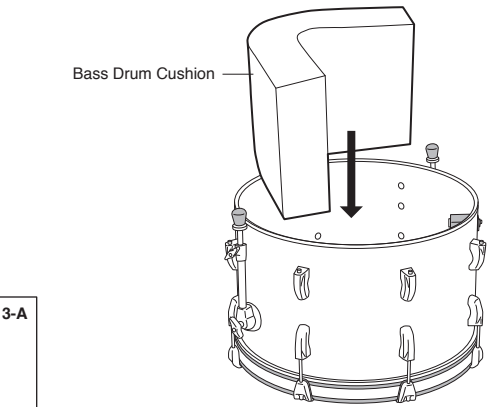

Fig.12
2. Turn the drum over and put the Bass Drum Cushion inside and at the bottom the Bass Drum Shell. Make sure that the Cushion doesn't touch the Jack Box inside the shell (Fig. 12).